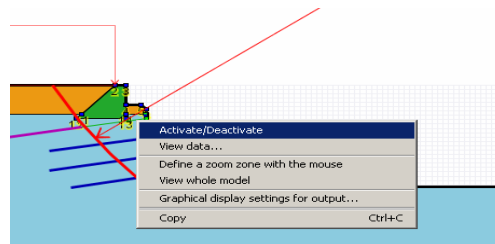

Figure 10: pop up menu (stages mode, after a right click on a soil layer)
- All other relevant options depending on the position of the mouse and on the selected element. For example on Figure 10, it is possible to edit graphical display settings, since the Stages/Calculations mode is active, and the calculation has already been performed.